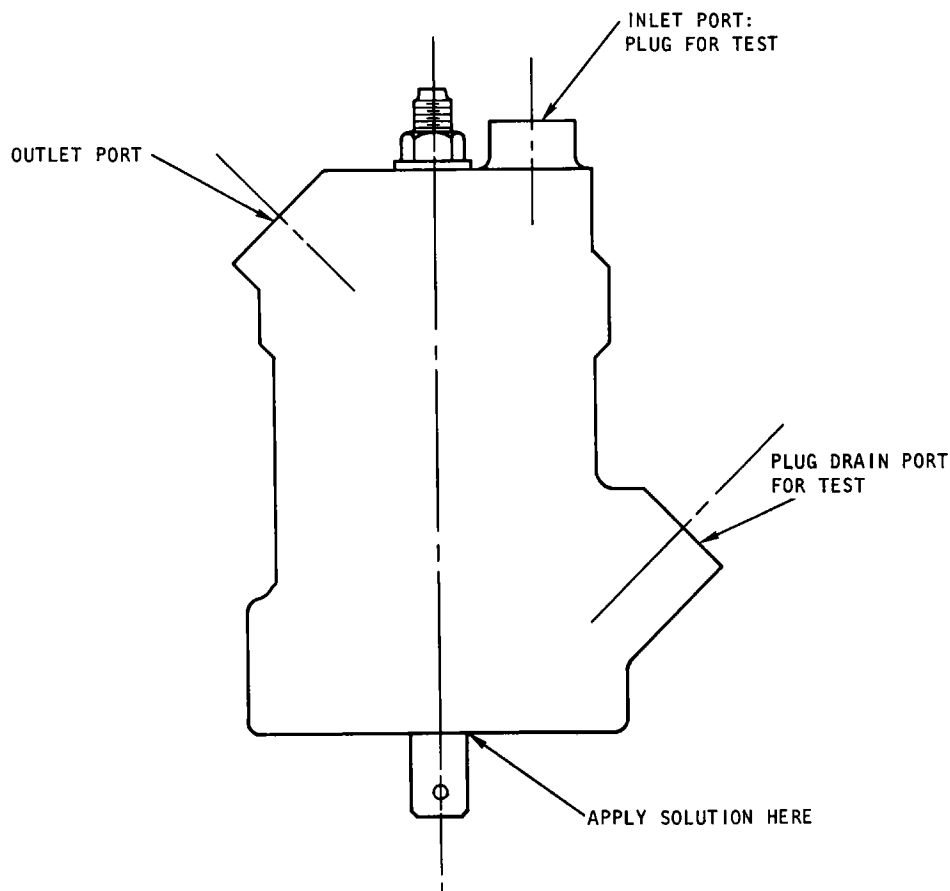

Figure 2. Cylinder Assembly Leak Test Points
- c. Apply leak detection solution to area indicated in Figure 2.